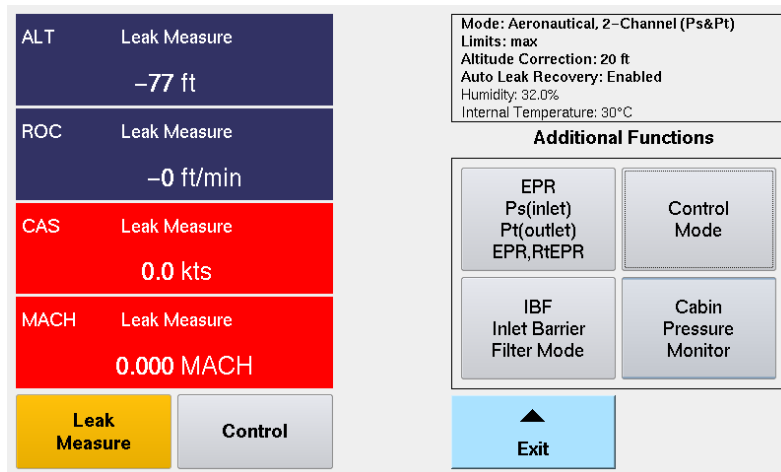

Figure H. 3 Additional Functions Screen
- Select "Additional Functions". A new screen appears (Fig. H. 3).